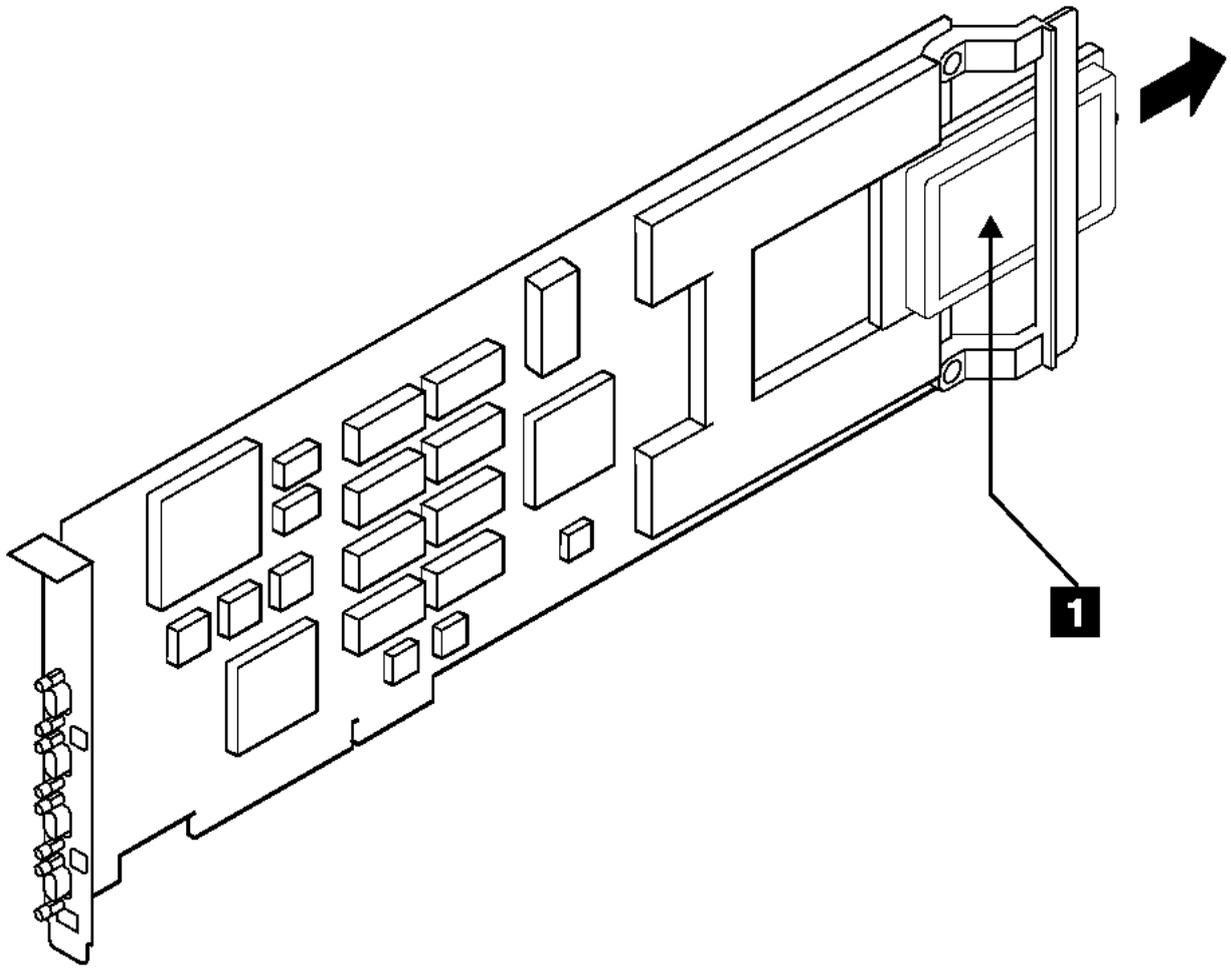

Figure 10-6. Removing the Fast-Write Cache Option Card from a PCI SSA Multi-Initiator/RAID EL Adapter
5. Referring to Figure 10-5 or Figure 10-6, pull the Fast-Write Cache Option card 1 in the direction shown by the arrow in the diagram. This action unplugs the card from the connector on the adapter card.